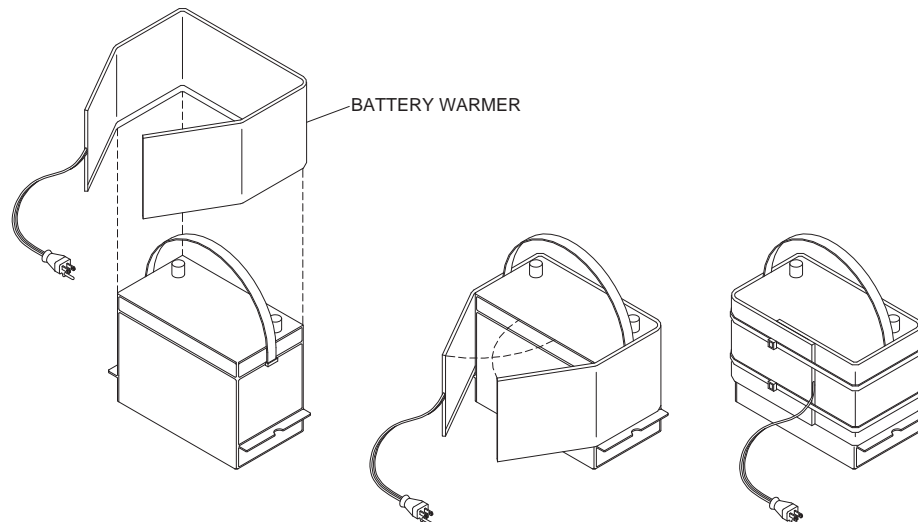

Figure 1. Battery Warmer Installation
8. Wrap the battery warmer (Item 1, Figure 1) around the battery and fasten in place with the provided wire ties.
Note: Do not wrap battery warmer below battery side tabs (See Figure 1).